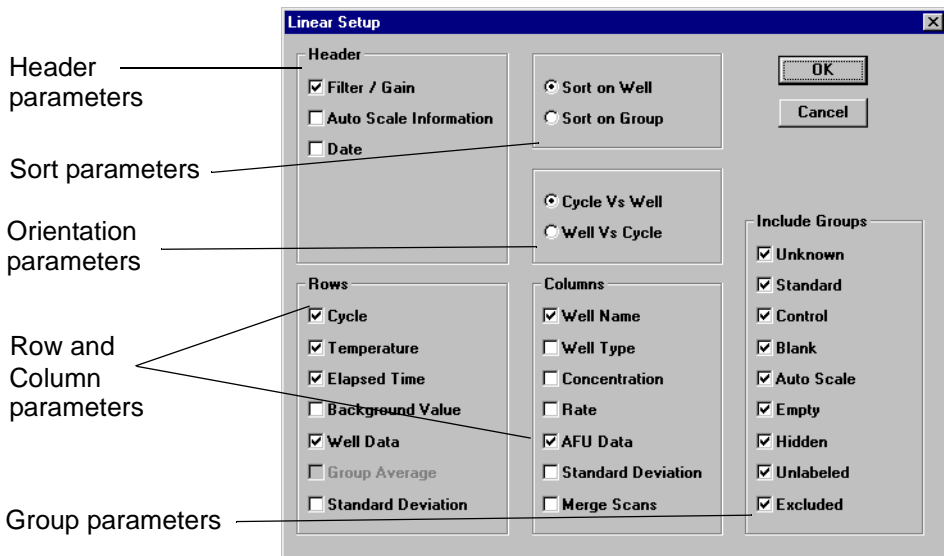

Figure 4-26 Linear Setup Dialog Box
1. In the Export Setup dialog box, click the button to the right of **Linear**. The Linear Setup dialog box appears (Figure 4-26).